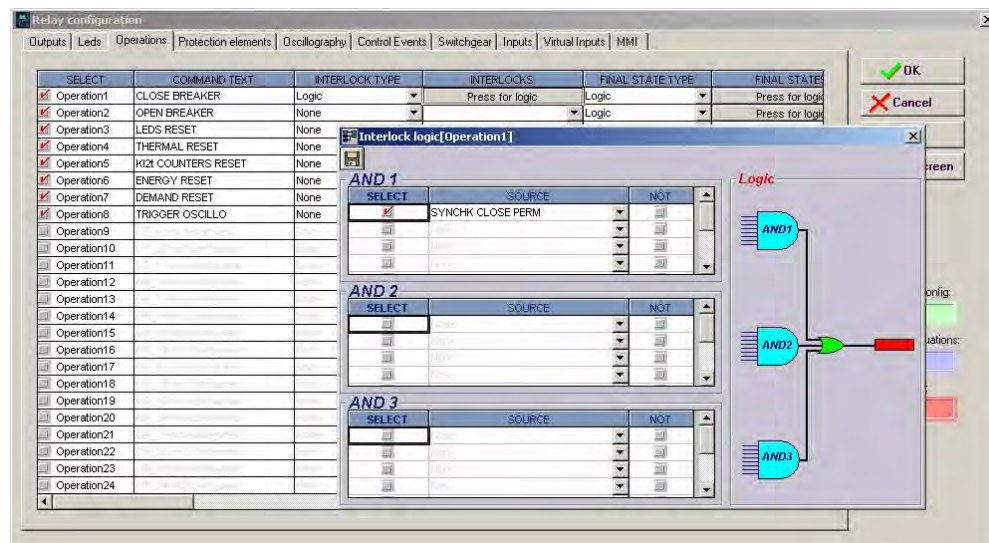

Figure 5-59: Operations and interlocks
- **Interlocks** setting define the desired interlocks. This setting is enabled selecting the “**logic**” option in “**Interlock type**”. In the “**Interlock logic**” screen we can set the interlock logic, as shown on Figure 5-59: Operations and interlocks